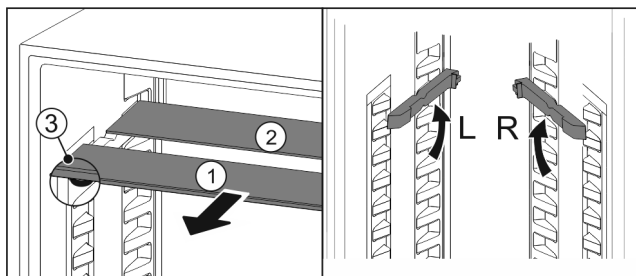

Fig. 17
- Pull the glass panels out Fig. 17 (1) from the front, one at a time.
- ▷ The glass panel Fig. 17 (1) and trim strip are at the front.
- ▷ The stops Fig. 17 (3) point down.